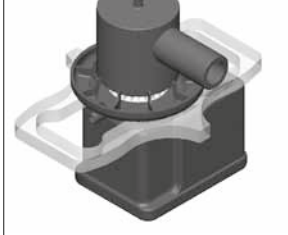

fig 12
- Connect the black air tube (P) to the air intake chamber (H) –fig.12